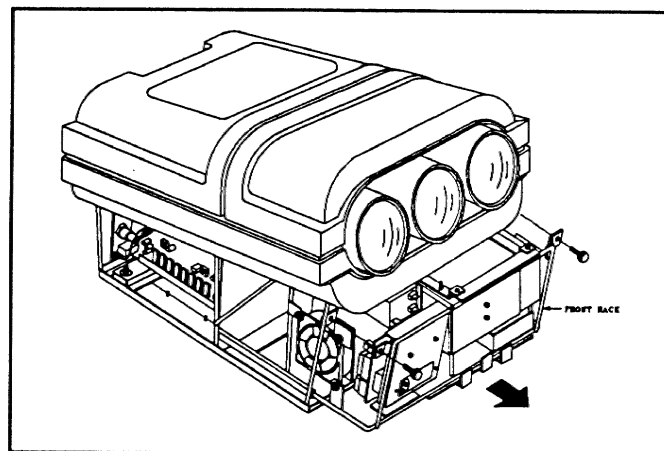

FIGURE 5-6. Front Slide-out Rack Access
- c) The front rack is positioned behind the front panel and secured by two hex head screws to the projector frame. Remove the screws as shown in Figure 5-6.